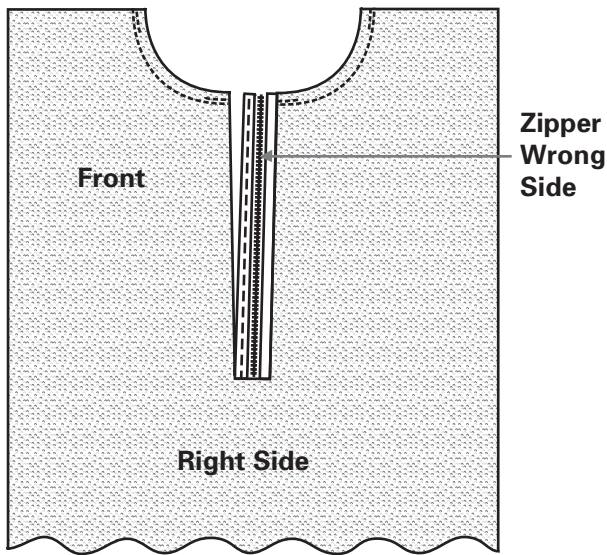

Fig. 4-5
- Close the zipper. On the front of the zipper, apply a strip of basting tape along the outer edge of each side of the zipper tape. Remove the paper backing only from the basting tape on the right-hand side of the zipper. Place the zipper front-side down and completely to the right of the zipper opening, evenly aligning the edges. The zipper pull should be 3/4 inch (2 cm) below the neck edge, and the zipper stop should be just below the cut opening in the fabric. Sew the zipper tape to the edge, using a 1/4-inch (6-mm) seam allowance. (Fig. 4-5)